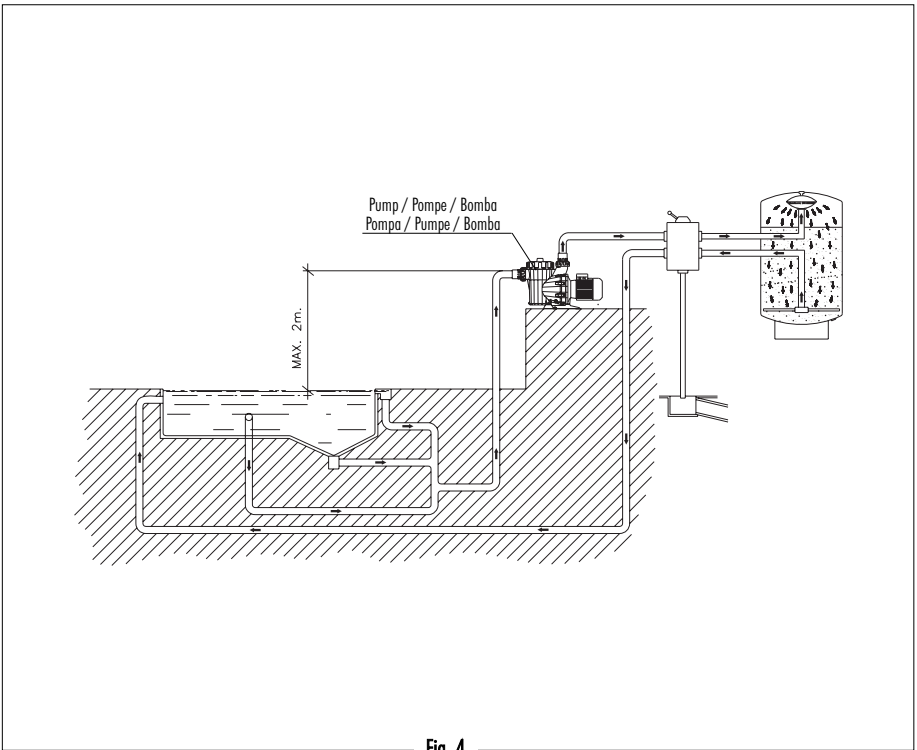

Fig. 4
- Where a self-priming pump is to be fitted above the water level, the difference in height must be no more than 2 metres (Fig. 4), ensuring that the suction pipe is as short as possible as a long pipe would increase drainage times and load losses in the installation.